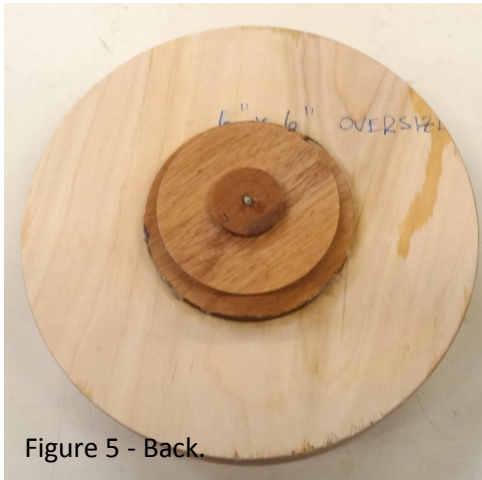

Figure 5 - Back.
4. Cut out a round glue block and drill a small hole through the center, making sure the hole is perpendicular. Select a good hard wood for the glue block so it will stand up to multiple mountings in your chuck. Mount between centers using the center hole and turn a tenon on one side to fit your chuck. Mount the tenon in the chuck, flatten the glue face and mark jaw #1 so you can remount it the same way each time. Cut out a second 6" diameter circle from  $\frac{3}{4}$ " plywood using a bandsaw or jigsaw. Drill a small hole through the center to mark the center on both sides. Use a drill press or make sure the hole is perfectly perpendicular. With the glue block mounted in the chuck, glue the 6" plywood circle to the glue block using the tailstock live center in the small hole to position it and apply pressure. Next, glue the previously prepared 6" ring with the 4" offset hole to the existing 6" circle, aligning the edges as closely as possible. Use a piece of scrap wood and the tailstock to hold it in place while it dries. When dry, apply thin CA to the outer edges of both 6" circles and true them up. You should now have an assembly that is approximately 6" in diameter and approximately  $1\frac{1}{2}$ " thick with a chuck tenon on one side and a 4" diameter hole  $\frac{3}{4}$ " deep offset  $\frac{1}{2}$ " on the other side. See Figures 5 and 6. **This is the offset assembly.**